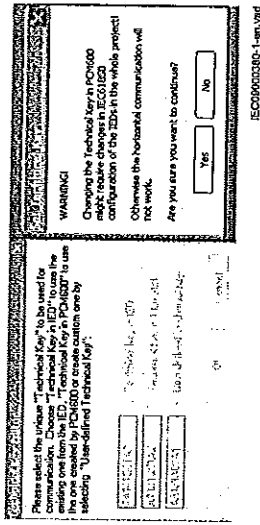

Figure 7: PCM600: Technical key editor
3. A dialog window opens to inform about the technical key concept. Click *OK* in the dialog window. The technical key is read from the IED and the technical key editor window opens, see Figure 7.